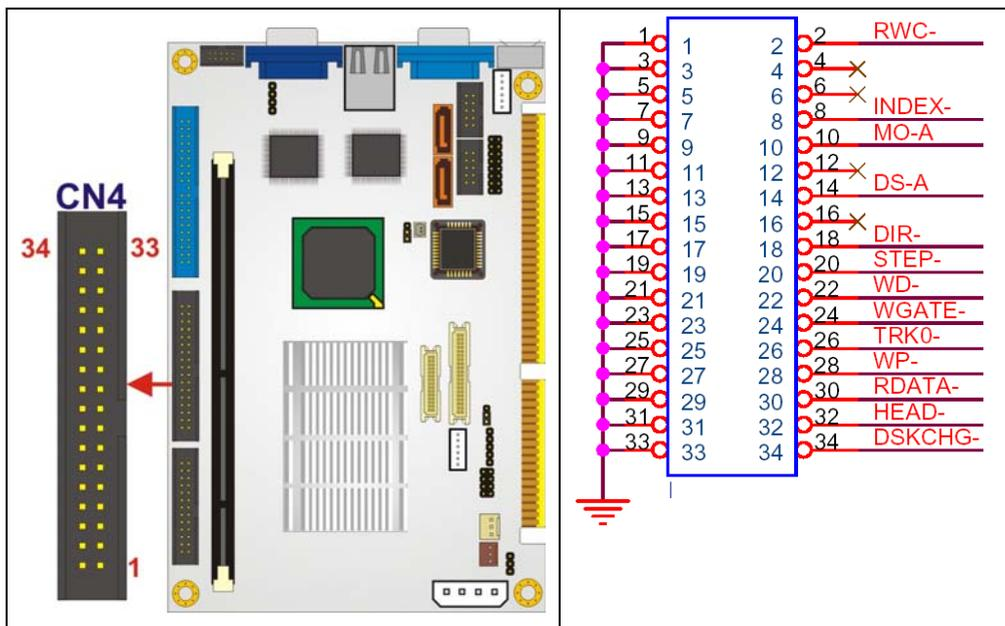

Figure 4-12: 34-pin FDD Connector Location
- CN Location:** See Figure 4-12